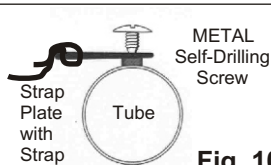

Fig. 10
- Attach strap plates to the tube with metal screws (see Fig. 10). **DO NOT pre-drill holes or over-tighten screw.** Use all straps provided.